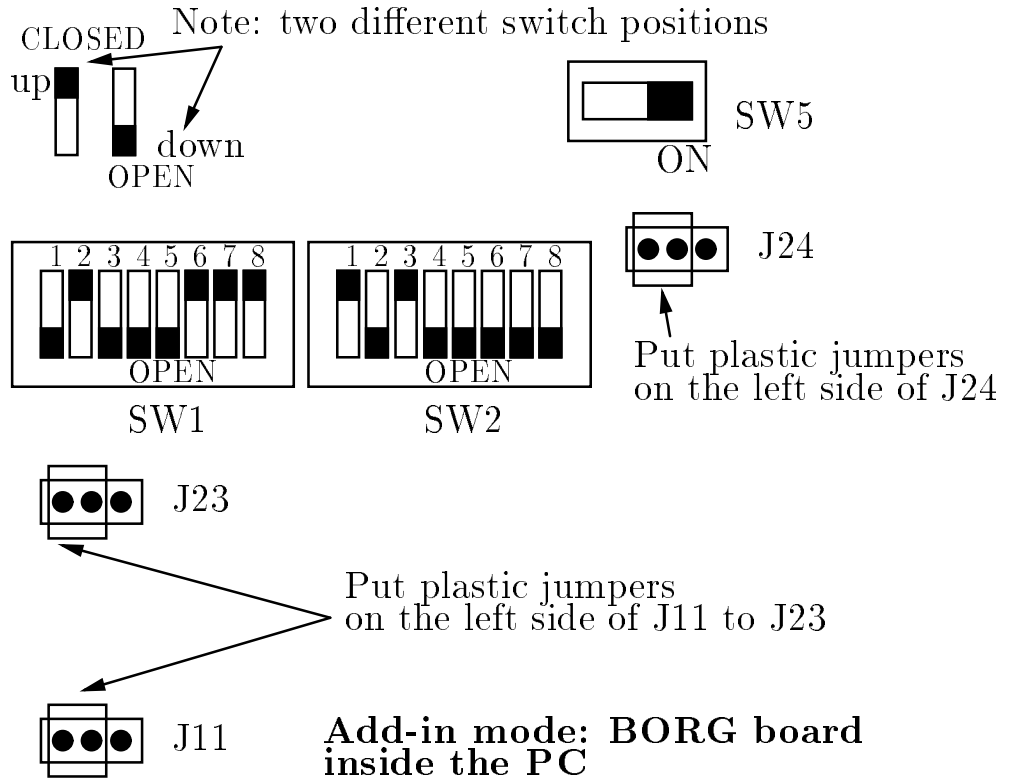

Figure 2.5: Setting for testing BORG board (add-in mode) with port address 0x30X and memory based address 0xd0000h
2. Set the dip switches SW1 and SW2 on the BORG board according to Fig. 2.5.
3. Place the plastic jumpers at locations J11-J23 and J24 on the two left pins (the two pins closest to the proto-area) as in Fig. 2.5.